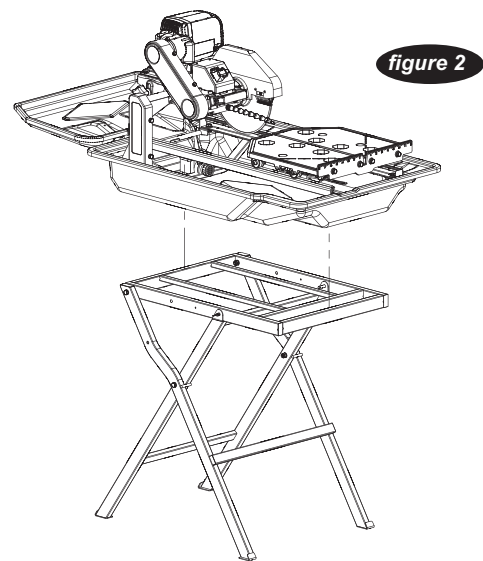

figure 2
3. Seat the saw securely onto the stand. **(see figure 2)**